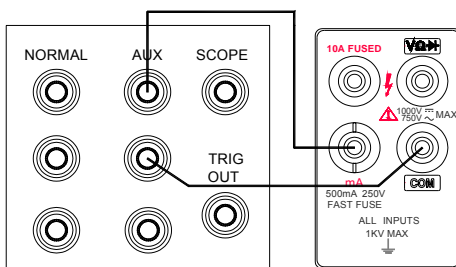

Figure 5-2
- 2) Connect the standard equipment with the meter as shown in Figure 5-2.
- 2) Connect the standard equipment with the meter as shown in Figure 5-2 referred before.